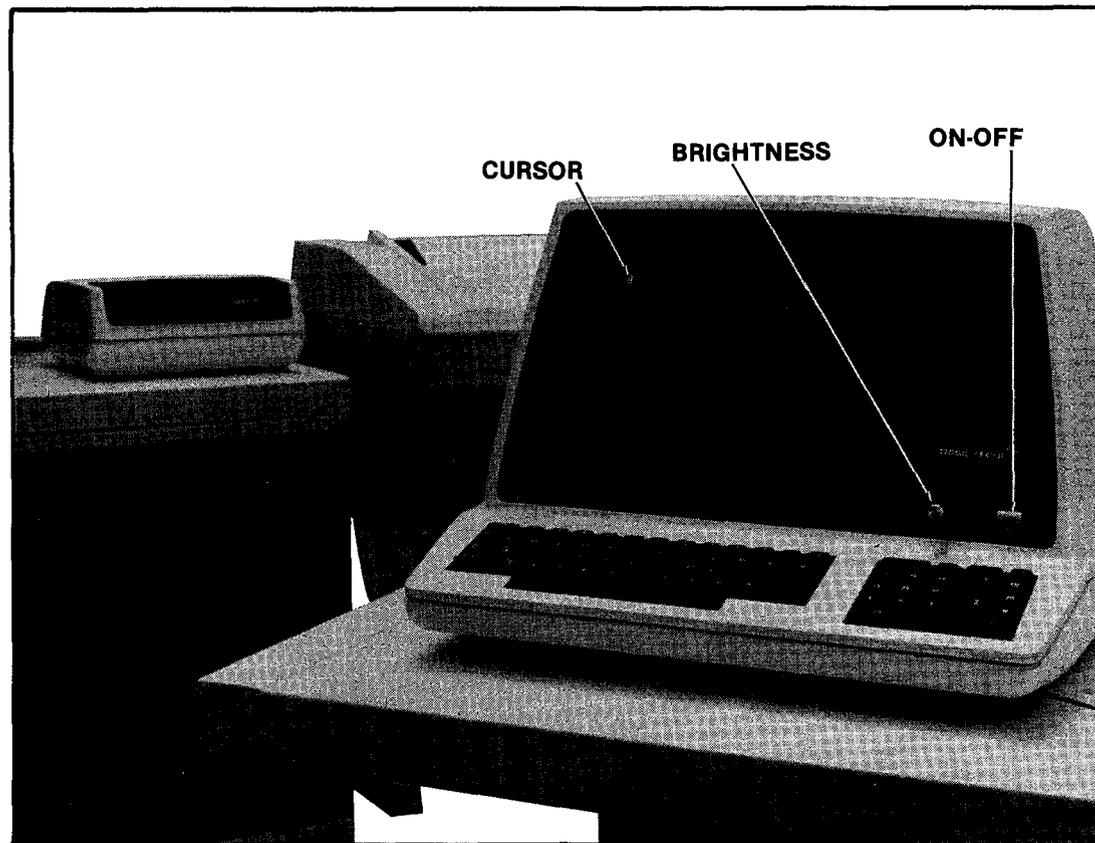

Figure 7. VDT front controls
- Power* Turn on the video display terminal ON-OFF switch. Within about 20 seconds you'll hear a "beep" and see a small white box--the cursor--appear in the upper left corner of the screen (Figure 7).
- Screen brightness* The brightness of the screen is controlled by a knob to the left of the on-off switch on the VDT. If you don't see the cursor and the entire display is blank, try adjusting the BRIGHTNESS control (Fig.7): turn the knob clockwise to make the screen brighter, counterclockwise to make the screen darker. If you turn the knob too far clockwise, a series of lines will appear on the screen; this is normal, simply adjust the knob back the other direction.